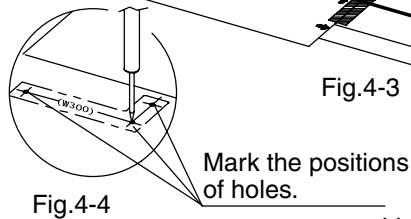

Fig.4-4
- [3.] Use a punch to mark screw holes position as shown on the template (Fig. 4-4).